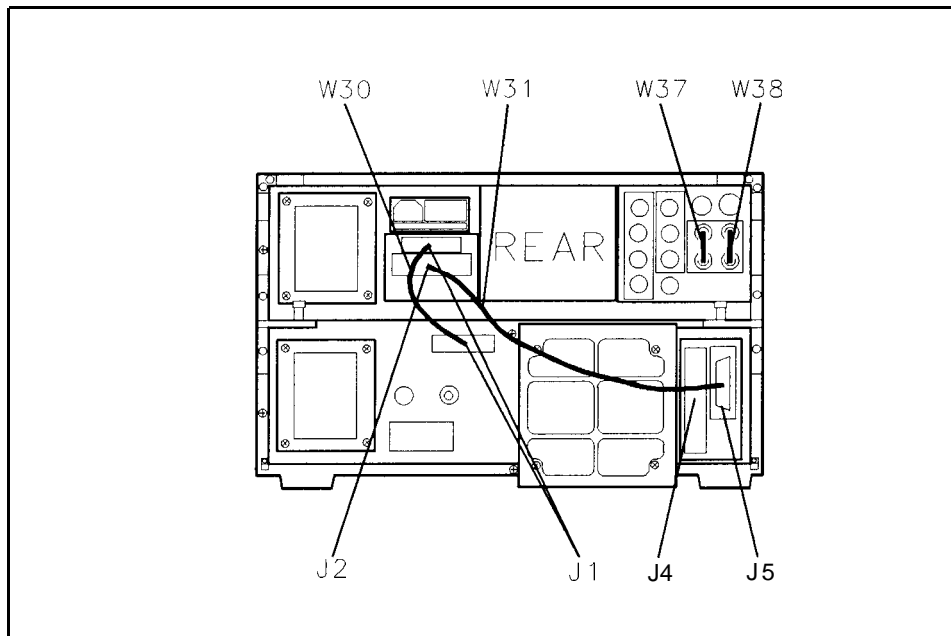

Figure 2-7. Rear-Panel Cable Connections
- Connect cable W31 between IF-Display section J2 and RF section J6. See Figure 2-7.